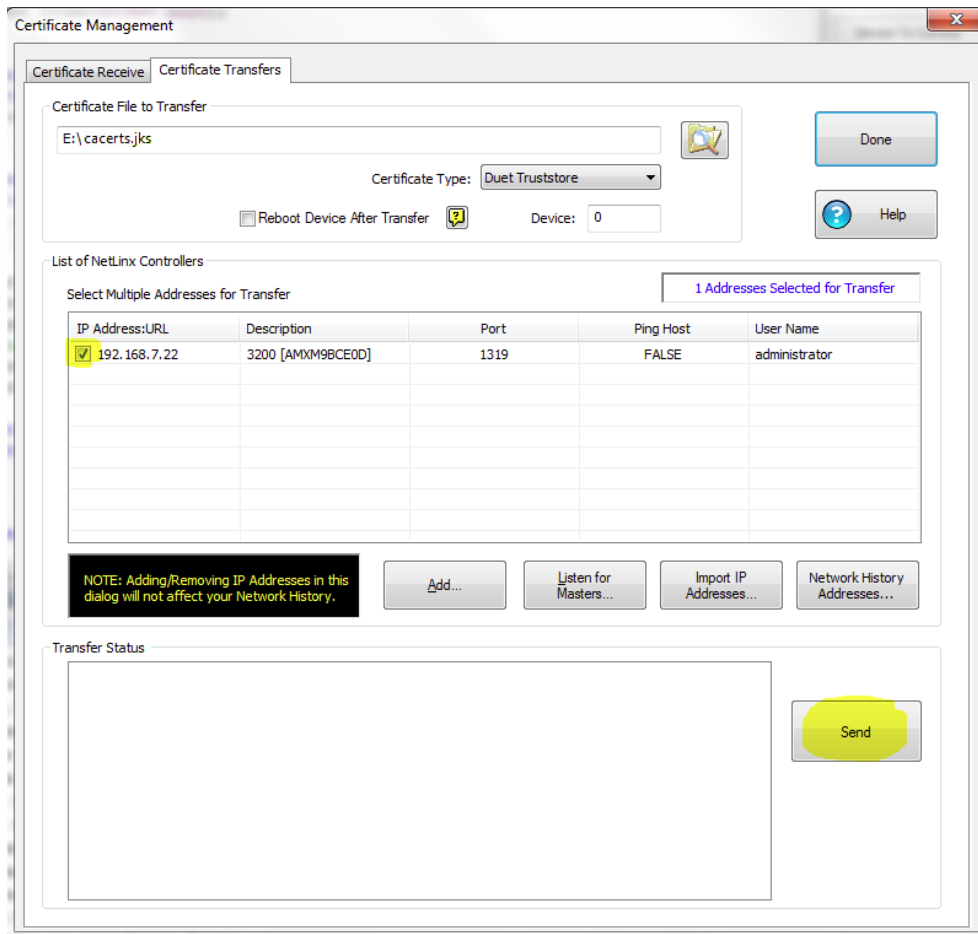

FIG. 480 Certificate Management - Transfer tab
4. Make sure that the checkbox beside the masters IP address/URL is ticked and click **Send** (FIG. 480):